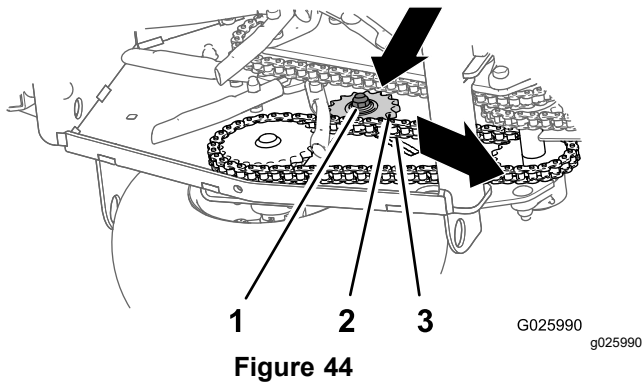

Figure 44
3. Check the tension of the drive-wheel chains (Figure 44).
4. Loosen the locknut and carriage bolt that secure the idler sprocket (Figure 44).
- Push down and forward on the sprocket to increase the chain tension as shown in Figure 44.